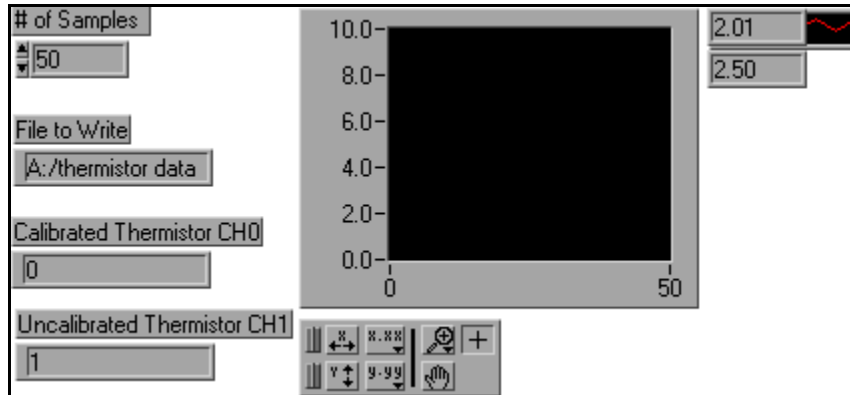

Figure 6: The panel window is used to define the number of samples, file path, and channel numbers for the multichannel VI.
SOFTWARE: You will use the multi-channel data acquisition VI which is located in the folder Engr210 on the desktop of the computers in the lab (Glennan 308). The panel window shown in Figure 6 will be used to set the multi-channel VI.
1. Select the “Operate Value” symbol from the tools palette (it looks like a hand with an extended forefinger) to enter the correct numbers in the four boxes on the left side of the panel window (Figure 6).